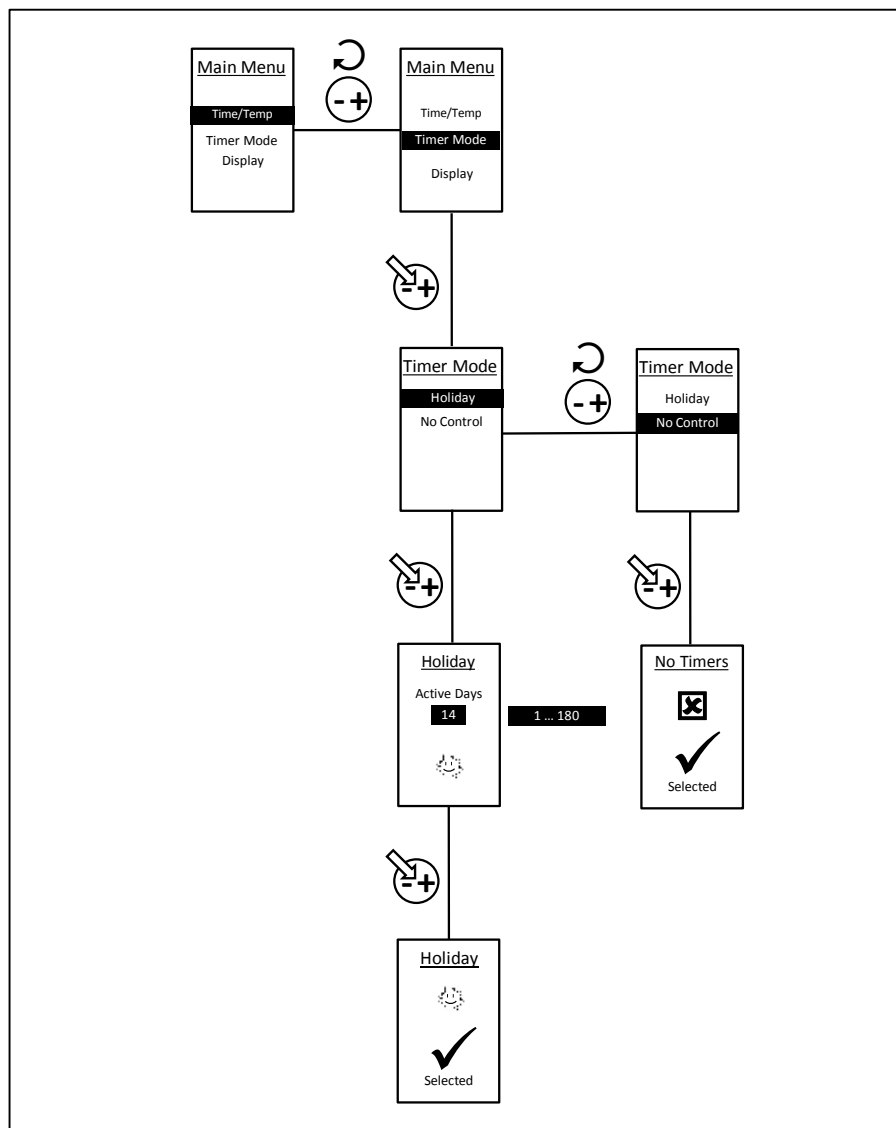

Figure 21: How to Set Timer Modes
- setting of timer modes (see Figure 21)